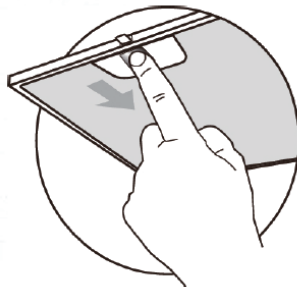

Fig.1
1. Remove the metal filters as shown in Fig. 1.
1.Remove the metal filters as shown in Fig. 1.